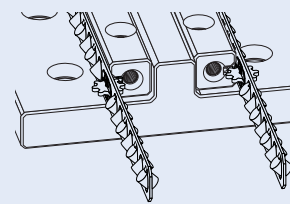

Fig. 17.2
- Place the cylindrical rollers with a retainer on the way at bed-side with the center of the pinion gear in the center of the retainer engaged with the end of the rack gear of the way. (See Fig.17.2) Do not bend the retainer.